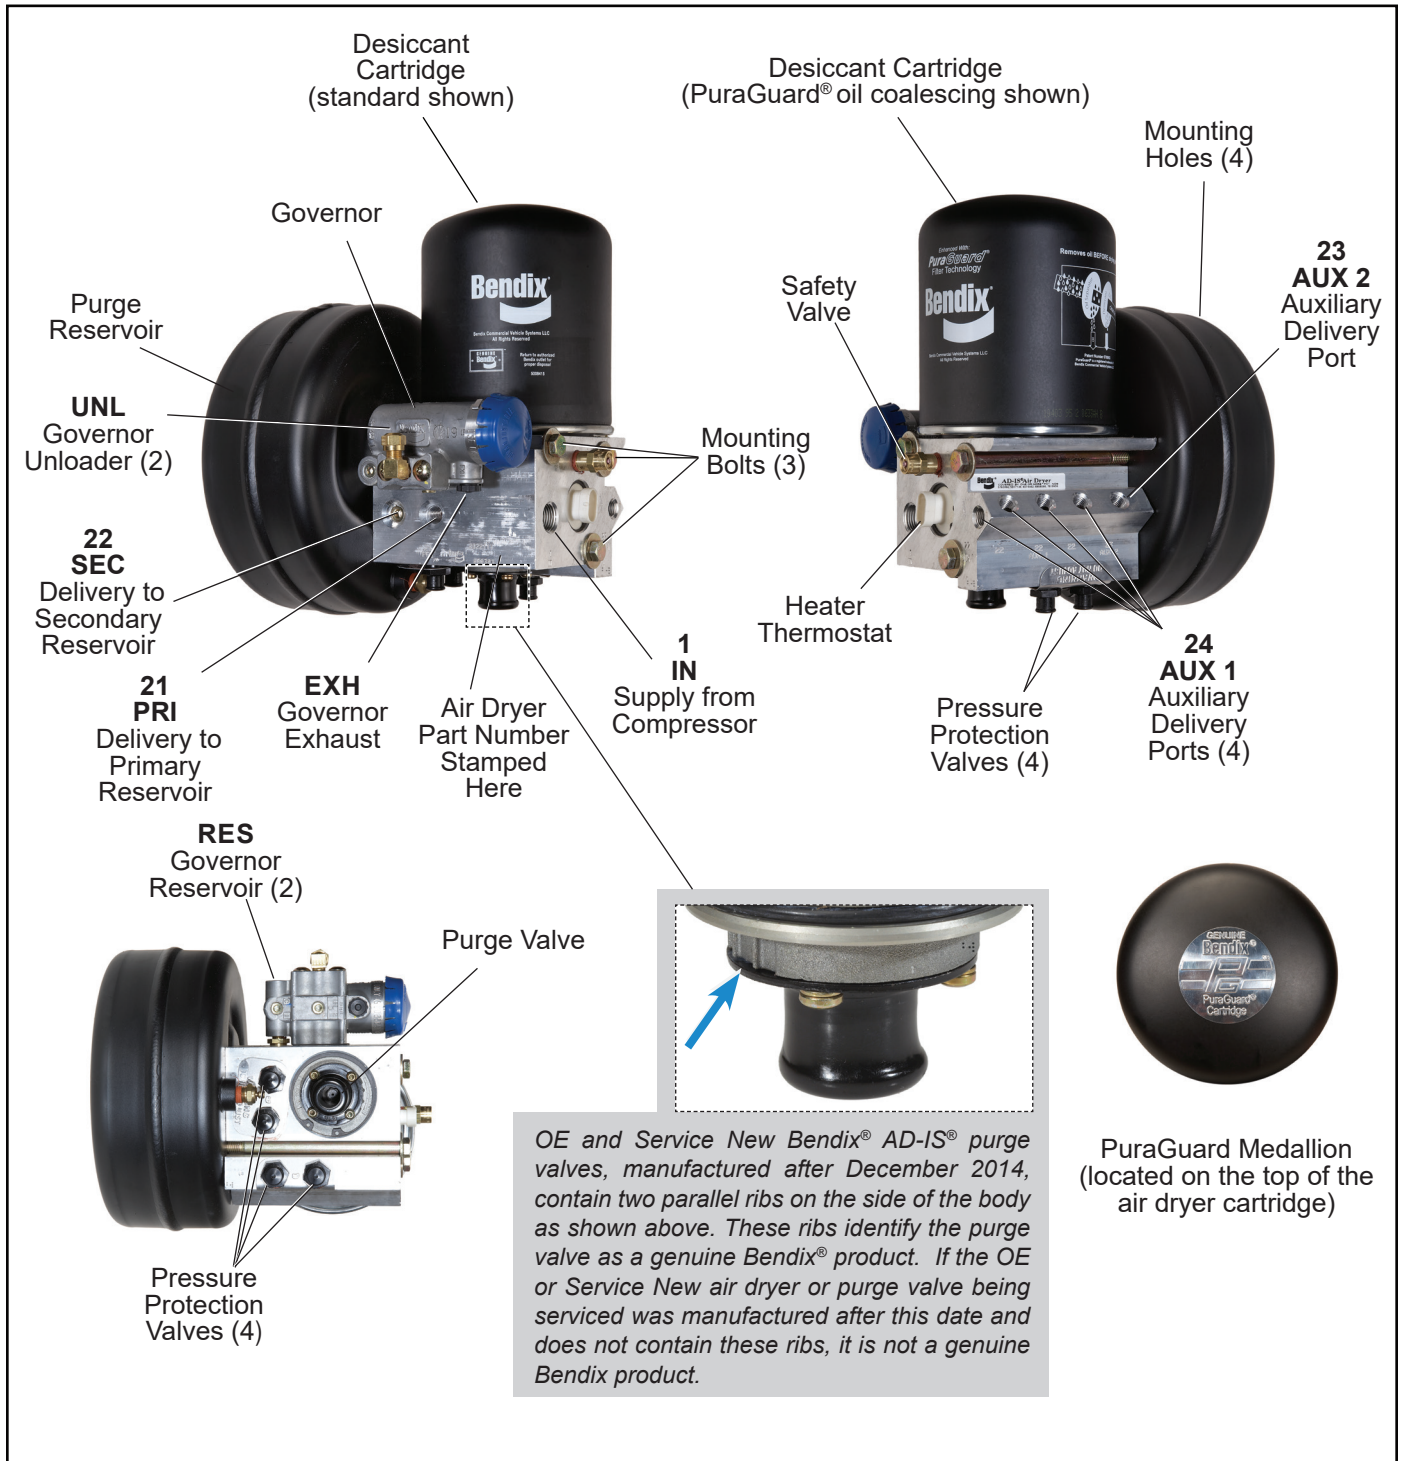

Figure 1 - Bendix® AD-IS® & AD-IS® PuraGuard® Oil Coalescing Air Dryer & Reservoir Systems
The Bendix AD-IS PuraGuard oil coalescing air dryer has an identical appearance to the standard Bendix AD-IS air dryer with one exception— it contains a coalescing media at the inlet of the desiccant bed and an identifying medallion on the top (See *Figure 1*). The coalescing media provides a higher level of oil removal over the standard AD-IS air dryer. The AD-IS PuraGuard oil coalescing air dryer has all of the same functions as the standard AD-IS air dryer and is used in applications where lower oil concentration levels are required.
2. Check the AD-IS air dryer and purge reservoir bolts for tightness. *See Figure 1.* Re-torque the three air dryer bolts to 360-420 in-lbs and the four purge reservoir bolts to 300-360 in-lbs.